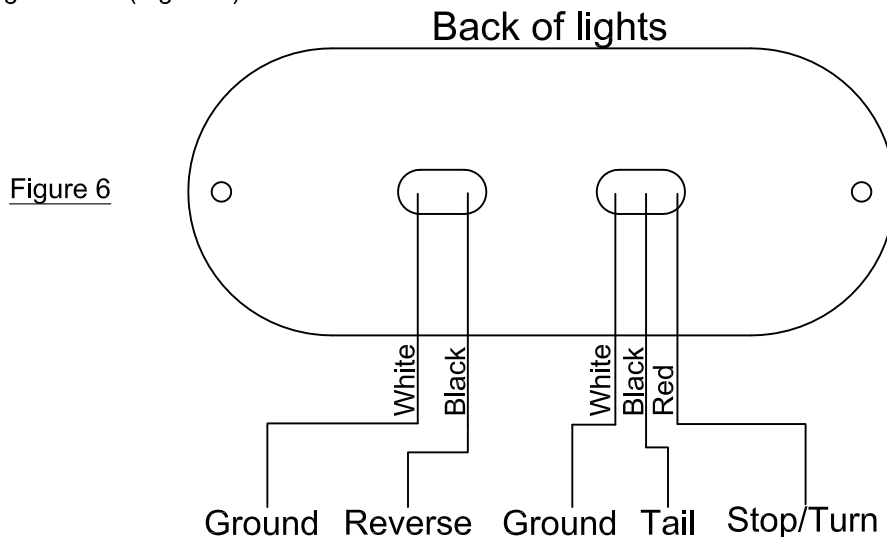

Figure 6
6. Connect the light to the vehicle according to the wiring diagram for the system that you are using. Follow the recommended electrical guidelines (Figure 6).